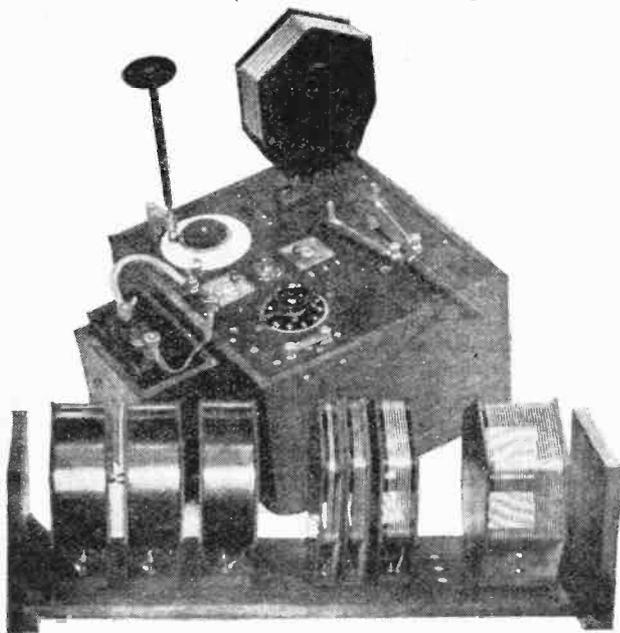

Fig. 2.—General view of wavemeter showing method of constructing short-wave coils.
F. Coils. The type of construction adopted for the short wavelength coils is shown in the photograph, Fig. 2. It was adopted with a view to the minimisation of high-frequency resistance and self-capacity. At the short-wave end of the range low resistance is a very important factor. It was found that the introduction of a few ohms in the oscillating circuit was enough to stop the oscillations completely.